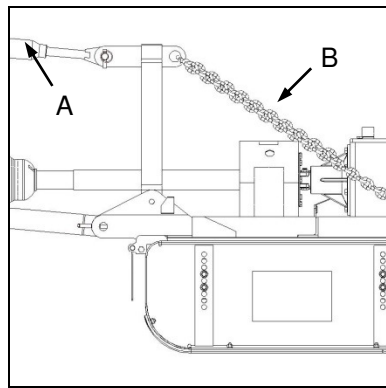

Fig. 1
- ✔ Adjust the tractor 3-point hitch top link (Fig. 1-A) to provide sufficient slack in the implement topmast chains (Fig. 1-B) to allow articulation of the implement over undulating terrain.
- ✔ Vetsel die trekker se 3-punt-boskakeel (Fig. 1-A) om genoeg speling in die implement se topmaskettings (Fig. 1-B) te bied om artikulasie van die implement oor ongelyke terrein toe te laat.